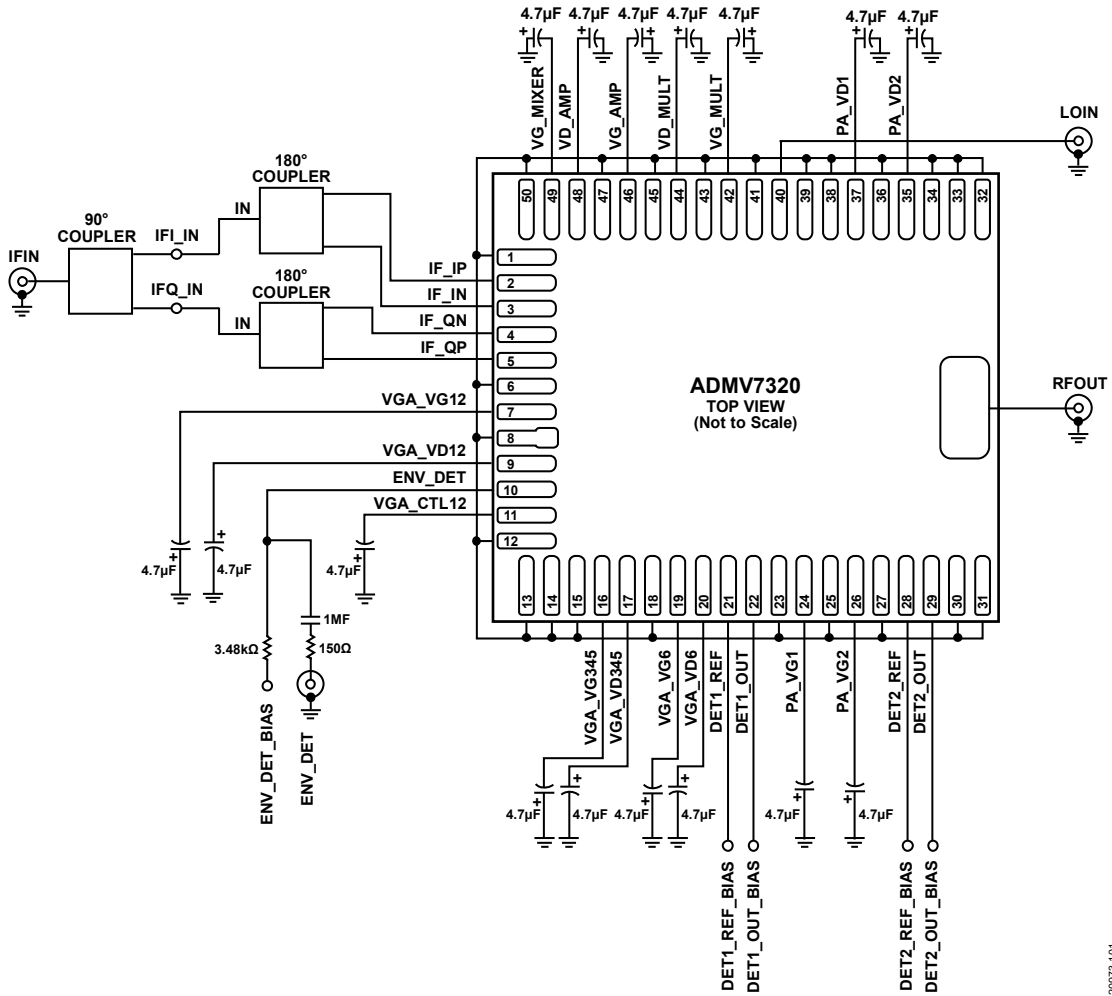

Figure 86. Typical Application Circuit
5. Apply a 4 V bias to VD_AMP, VGA_VD12, VGA_VD345, VGA_VD6, PA_VD1, PA_VD2, DET1_REF_BIAS, DET1_OUT_BIAS, DET2_REF_BIAS and DET2_OUT_BIAS (see Figure 86).
Figure 86 shows the typical application circuit.